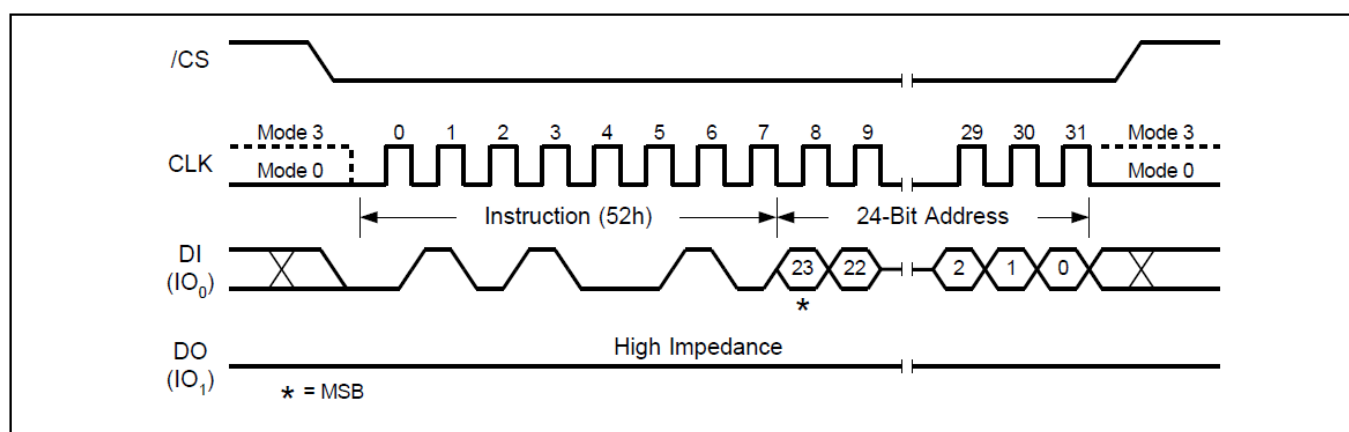

Figure17. 32KB Block Erase Sequence Diagram
The 32KB Block Erase command sequence: CS# goes low → sending 32KB Block Erase command → 3-byte address on DI → CS# goes high. The command sequence is shown in Figure17. CS# must be driven high after the eighth bit of the last address byte has been latched in; otherwise the 32KB Block Erase (BE) command is not executed. As soon as CS# is driven high, the self-timed Block Erase cycle (whose duration is tSE) is initiated. While the Block Erase cycle is in progress, the Status Register may be read to check the value of the Write in Progress (BUSY) bit. The Write in Progress (BUSY) bit is 1 during the self-timed Block Erase cycle, and is 0 when it is completed. At some unspecified time before the cycle is completed, the Write Enable Latch (WEL) bit is reset. A 32KB Block Erase (BE) command applied to a block which is protected by the Block Protect (CMP, SEC, TB, BP2, BP1, and BP0) bits (see Table 1-26) is not executed.